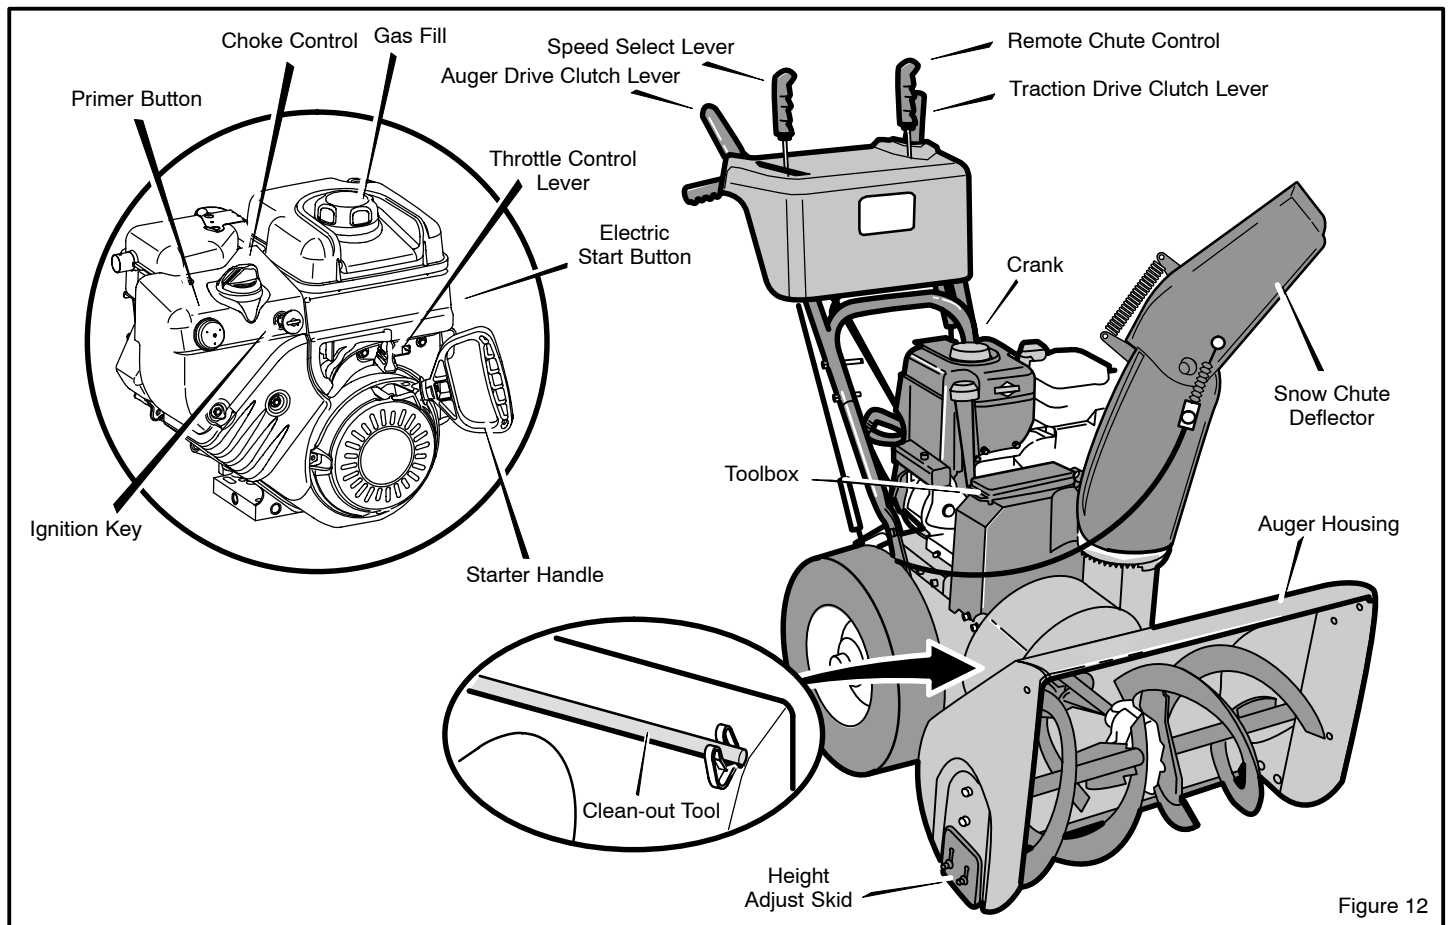

Figure 12
1. Rotate the **crank** to set the direction (left to right) of the discharge chute (see Figure 12).